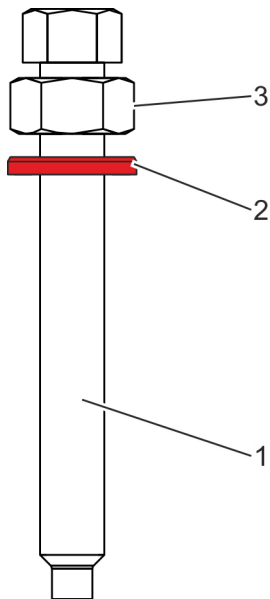

Fig. 28: Preparing the fastening screws
4. ➤ Screw a nut (Fig. 28/3) completely on to each of the fastening screws (Fig. 28/1) of the blocking device.
5. ➤ Insert a washer (Fig. 28/2) on each of the fastening screws (Fig. 28/1) of the blocking device.